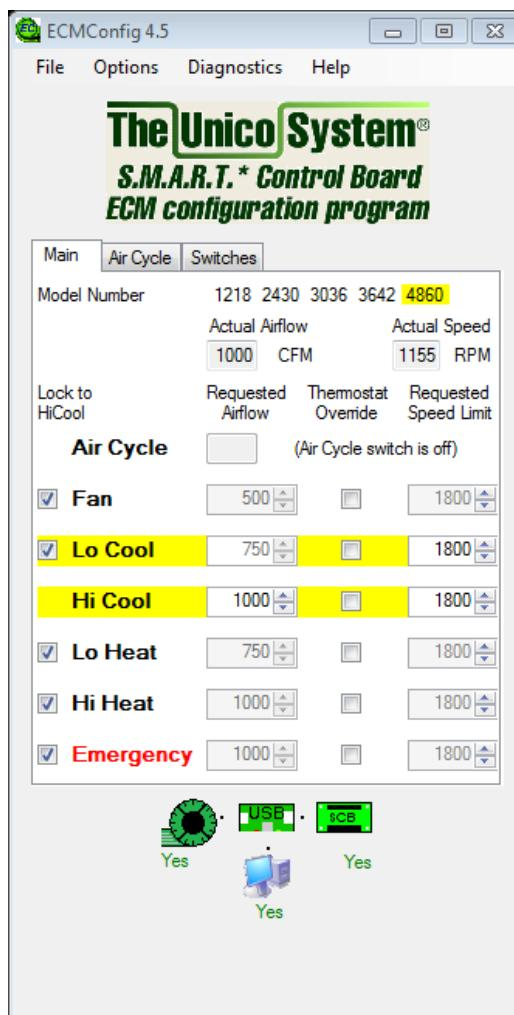

Figure 28. ECMConfig Main Tab. Model number and thermostat calls highlighted.
Upon startup, you will see a temporary ‘splash’ screen, and then the Main tab of the ECMConfig program. There are three Tabs: Main, Air Cycle and Switches. The Main tab is used to set the Airflow and RPM Limit for each Mode of operation. It also provides information on the current airflow and fan RPM, as well as the Model number of the blower as identified by the motor size and position of the MOD and AUX switches. The blower model and any calls from the thermostat will be highlighted on this screen, as shown in Figure 28. If the highlighted model is not what is installed, set the switches to the correct position for your model blower as shown in Table 4, and cycle the power to the SCB.
**Fixed Mode.** This mode turns on the blower at the Fan airflow rate according to a schedule set by the user. For example (See Figure 28), 10 minutes every 8 hours. Simply fill in the two fields in the Fixed Mode section of the Air Cycle tab to determine how long and how often the air will circulate. This mode can be used to circulate air within the house, or also to bring in fresh air if there is a fresh air intake duct installed with the system.